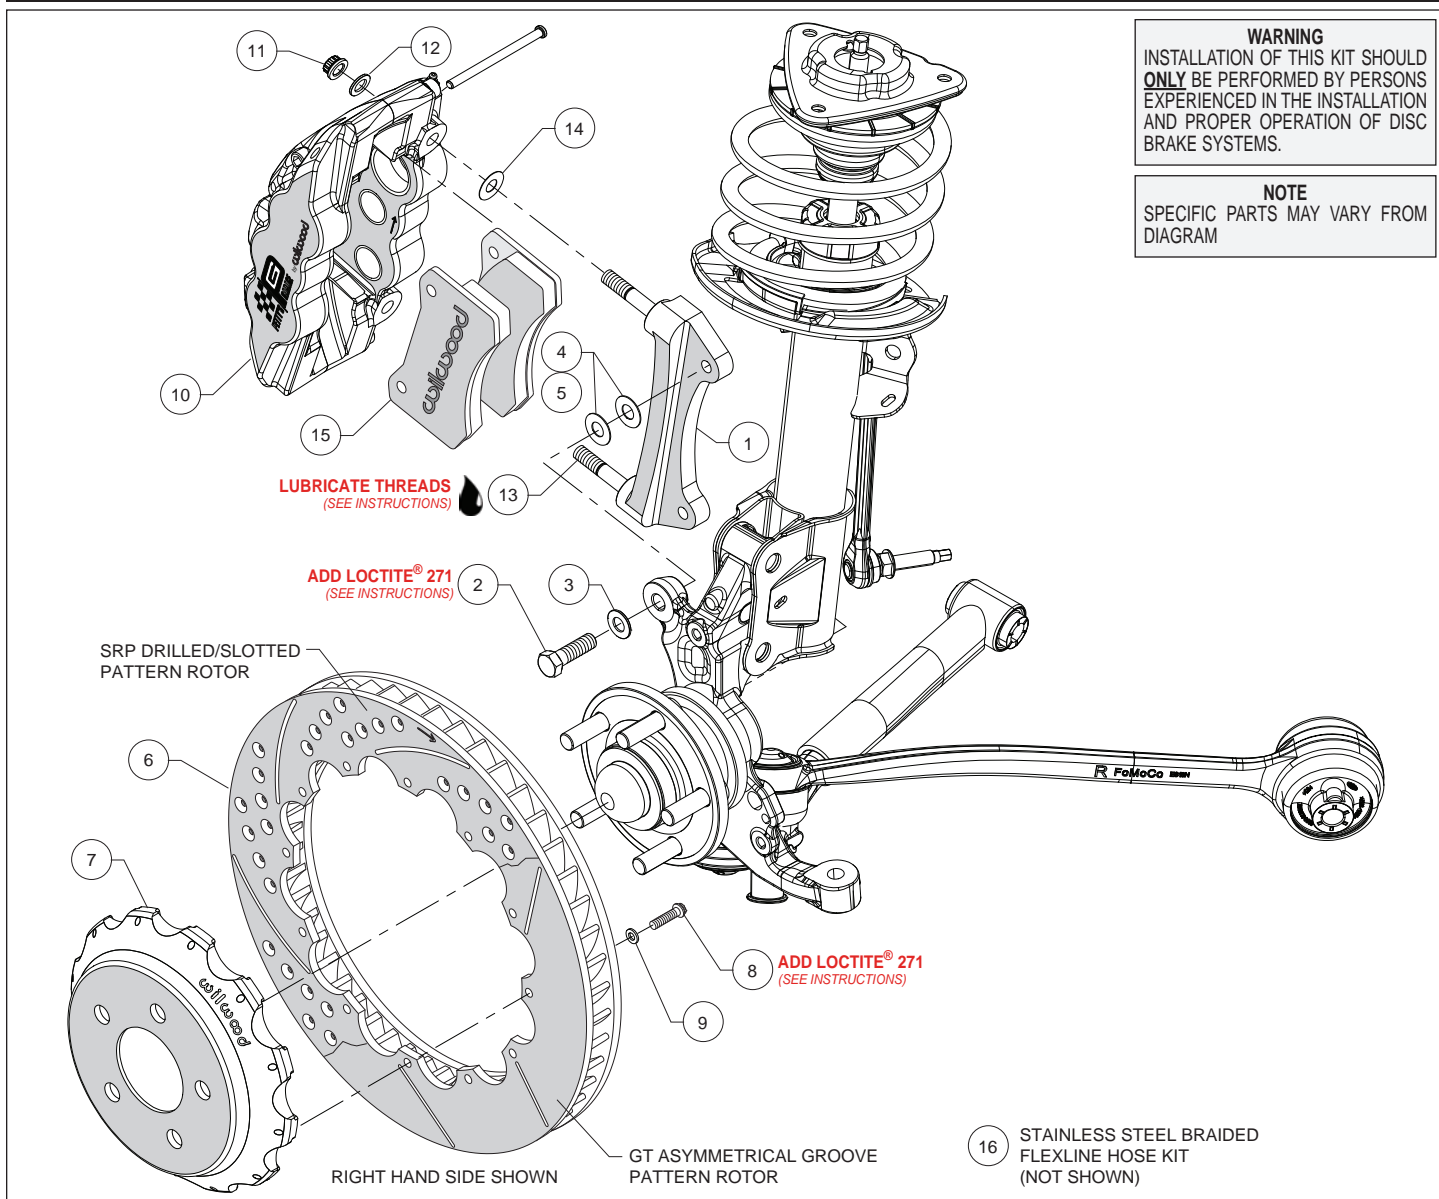
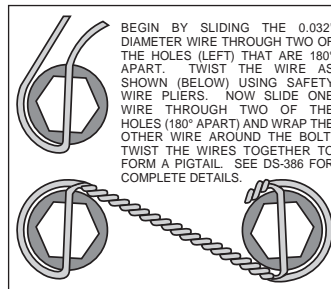

Figure 1. Typical Installation Configuration
Figure 3. Safety Wire Diagram
**Assembly Instructions** (numbers in parenthesis refer to the parts list and Figure 1 on the preceding pages):
- The caliper mount bracket (1) should initially be installed with clean, dry threads on the mounting bolts. Orient the bracket, as shown in Figure 1 and Photo 1, and install using bolts (2) and washers (3). Initially place two .033" thick shims (4) on each bolt between the bracket and upright, Figure 1. Temporarily tighten the mounting bolts. **NOTE:** *The bracket must fit squarely against the mount bosses on the upright.* Inspect for interference from casting irregularities, machining ridges, burrs, etc. Later, after the caliper alignment has been checked, the mount bolts will be secured using red *Loctite*® 271.
- Orient the rotor (6) and the hat (7) as shown in Figure 1 and Photo 2. Attach rotor to hat using bolts (8) and washers (9). Using an alternating sequence, apply red *Loctite*® 271 to the threads, and torque to 155 **in-lbs**. For an added measure of security, the bolts may be safety wired using standard 0.032 inch diameter stainless steel safety wire as shown in Figure 3. Refer to Wilwood's data sheet DS-386 (available at [www.wilwood.com/Pdf/DataSheets/ds386.pdf](http://www.wilwood.com/Pdf/DataSheets/ds386.pdf)) for complete safety wire installation instructions.
- NOTE:** *This kit contains distinct right and left hand calipers that must be mounted in a specific direction, as described below.* Lubricate the caliper mounting studs (13) with lightweight oil. Initially place one .030" thick shim (14) on each stud between the caliper and the bracket, as shown in Figure 1 and Photo 4. Mount the caliper (10) onto the bracket (1) using lock nuts (11) and washers (12), Figure 1. Temporarily tighten the lock nuts. Ensure that the caliper is mounted so the largest pistons are at the rotor exit end of the caliper, in relation to the direction of the rotor. View the rotor through the top opening of the caliper. The rotor should be centered in the caliper, Photo 5. If not, adjust by adding or subtracting shims (4 and/or 5) between the bracket and the upright. Always use the same amount of shims on each of the two mounting bolts. Once the caliper alignment is correct, remove the bracket mounting bolts one at a time, apply red *Loctite*® 271 to the threads, and torque to 60 ft-lbs.
- Remove the two pad retaining pins from the caliper (10) by carefully popping out the pin retaining clips and sliding out the pins. Insert the brake pads (15) into the caliper from the bottom, Figure 1 and Photo 6. With the friction material facing the rotor, secure the brake pads in place with the pad retaining pins and clips, Photo 7. Reinstall the caliper onto the caliper mounting bracket and temporarily tighten the lock nuts. Check that the top of the brake pad is flush with the outside diameter of the rotor, Photo 8. If not, adjust by adding or subtracting shims (14) between the caliper and the bracket. After the caliper pad height is set, torque the caliper lock nuts (11) to 47 ft-lb.